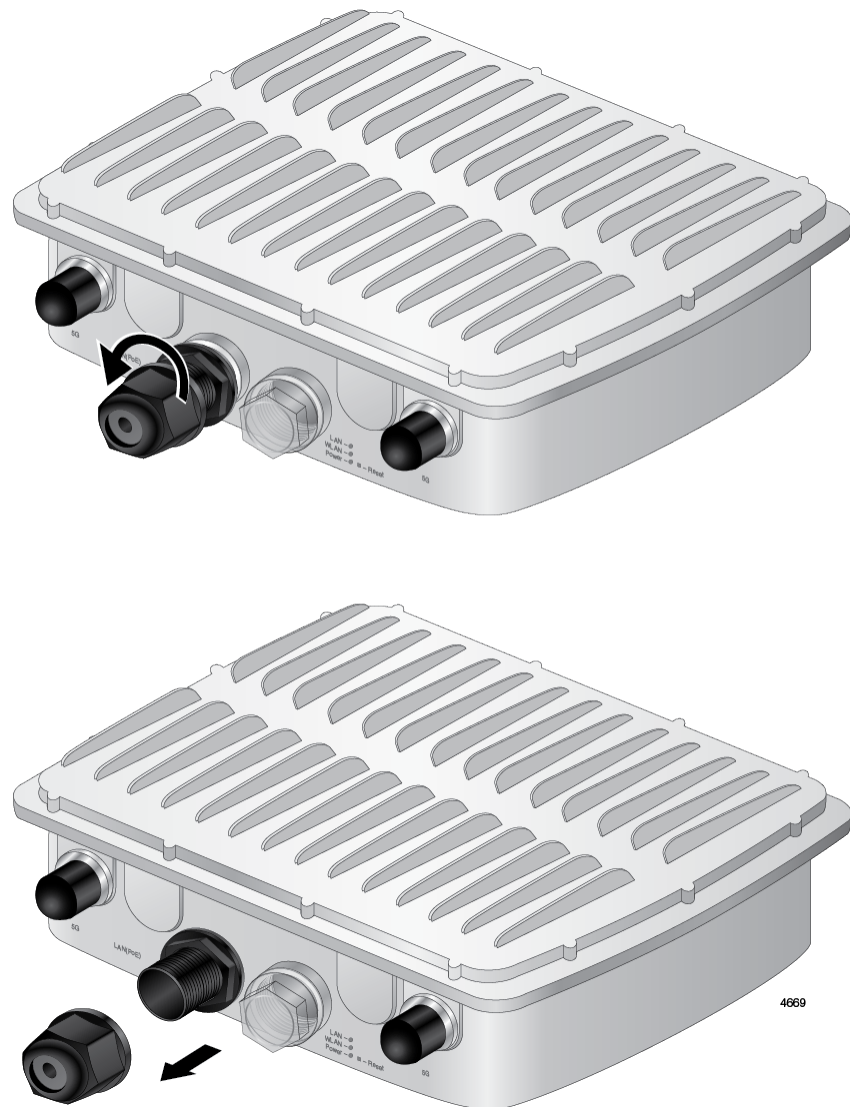

Figure 8. Removing the Cap from the LAN Port
2. Unscrew the cap on the LAN port and remove it from the access point. See Figure 8.